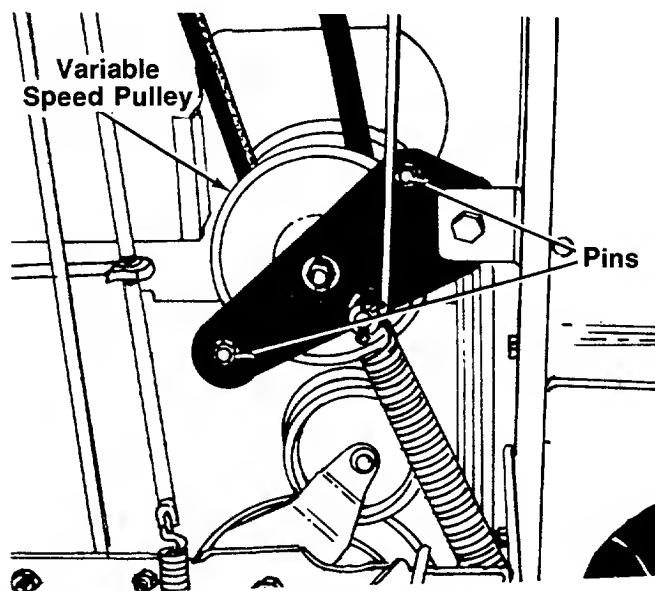

**FIGURE 21.**
6. Remove the engine pulley belt guard by slipping it back and to the right. See figure 21.